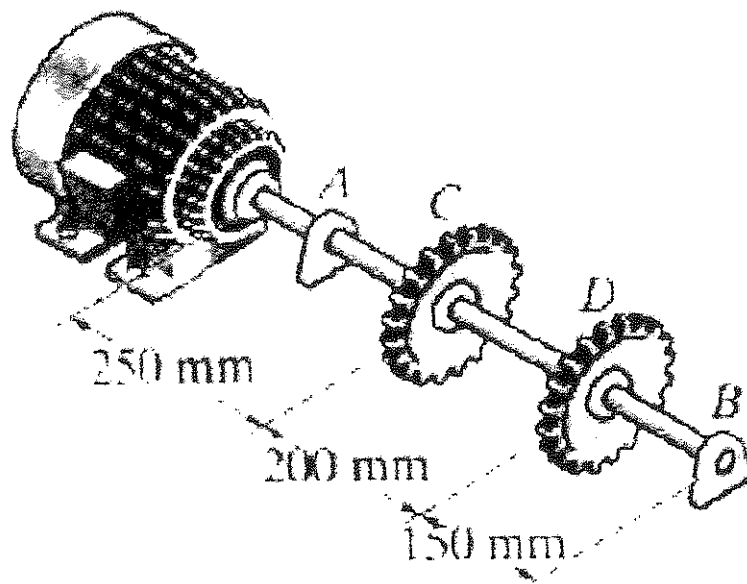

Figure 6: Motor-Gear assembly
- (b) A motor delivers 33kW to the solid stainless steel shaft while it rotates at 20Hz. The solid shaft is supported on smooth bearings at A and B which allows free rotation of the shaft as shown in Figure 6 below. The gears C and D remove 20kW and 12kW respectively. Determine the **diameter** of the shaft to the nearest mm if the allowable shear stress is $\tau_{\text{allow}} = 56\text{MPa}$ and the allowable angle of twist of C with respect to D is 0.20° . Take G_{ss} as 75GPa.